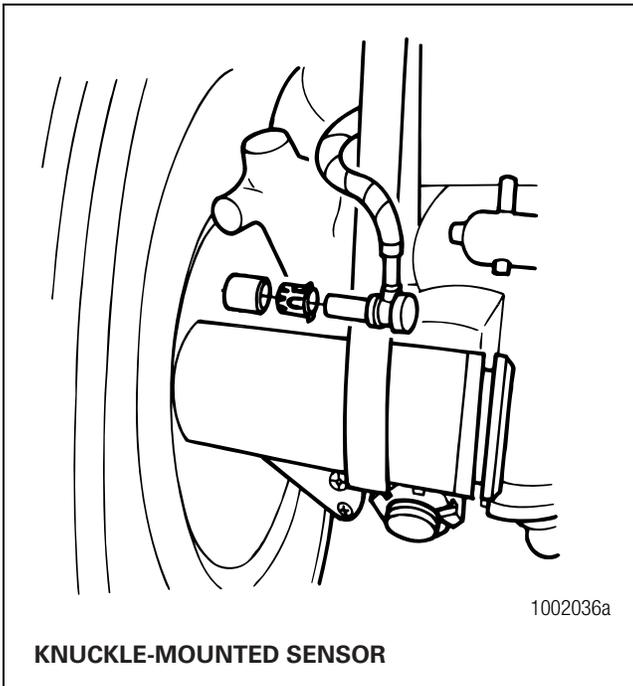
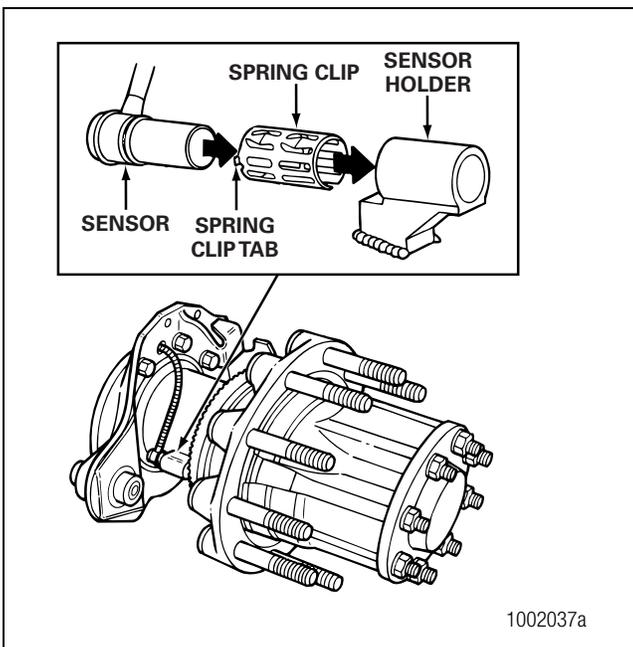

Figure 4.2
Figure 4.3
6. Remove the sensor from the sensor holder. Use a twisting motion if necessary. **Do not pull on the cable.** Figure 4.2 and Figure 4.3.